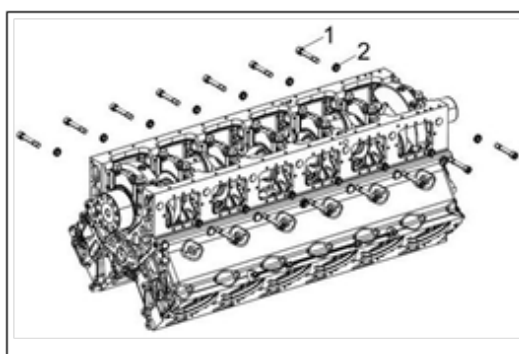

Figure 115.
1. Loosen and remove the main bearing cap auxiliary bolts (Figure 115, item 1) and washer (Figure 115, item 2).